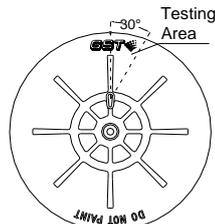

Fig. 8
- ◇ When multiple detectors are connected with a remote indicator, a diode 1N5819 should be connected to Terminal 4 of the orientation base in series before going to the positive of the remote indicator. System composition is shown in Fig. 8.
The testing area of the detector is shown in Fig. 8.